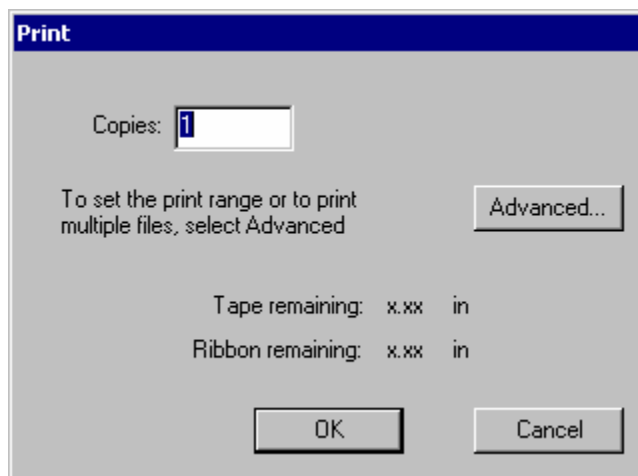

Figure 11-3. The Print screen.
1. With the label you want to print displayed in the **Editor** window, press **Print**. You'll see the **Print** screen (Figure 11-3).
1. When the label set is complete (see **Creating Sets of Labels** on page 6-22), choose **Print** . The **Print** screen displays, as shown in Figure 11-3.
1. When the label set is complete (see **Creating Sets of Labels** on page 6-22), or you have opened a file containing a label set, choose **Print** . The **Print** screen displays, as shown in Figure 11-3.
4. Choose **OK**. You'll see the **Print** screen (Figure 11-3) again.
1. With any file from the group you want to print open in the **Editor** window, press **Print**. You'll see the **Print** screen (Figure 11-3).
5. Choose **OK**. You'll see the **Print** screen (Figure 11-3).
4. Choose **OK**. You are returned to the **Print** screen (Figure 11-3).